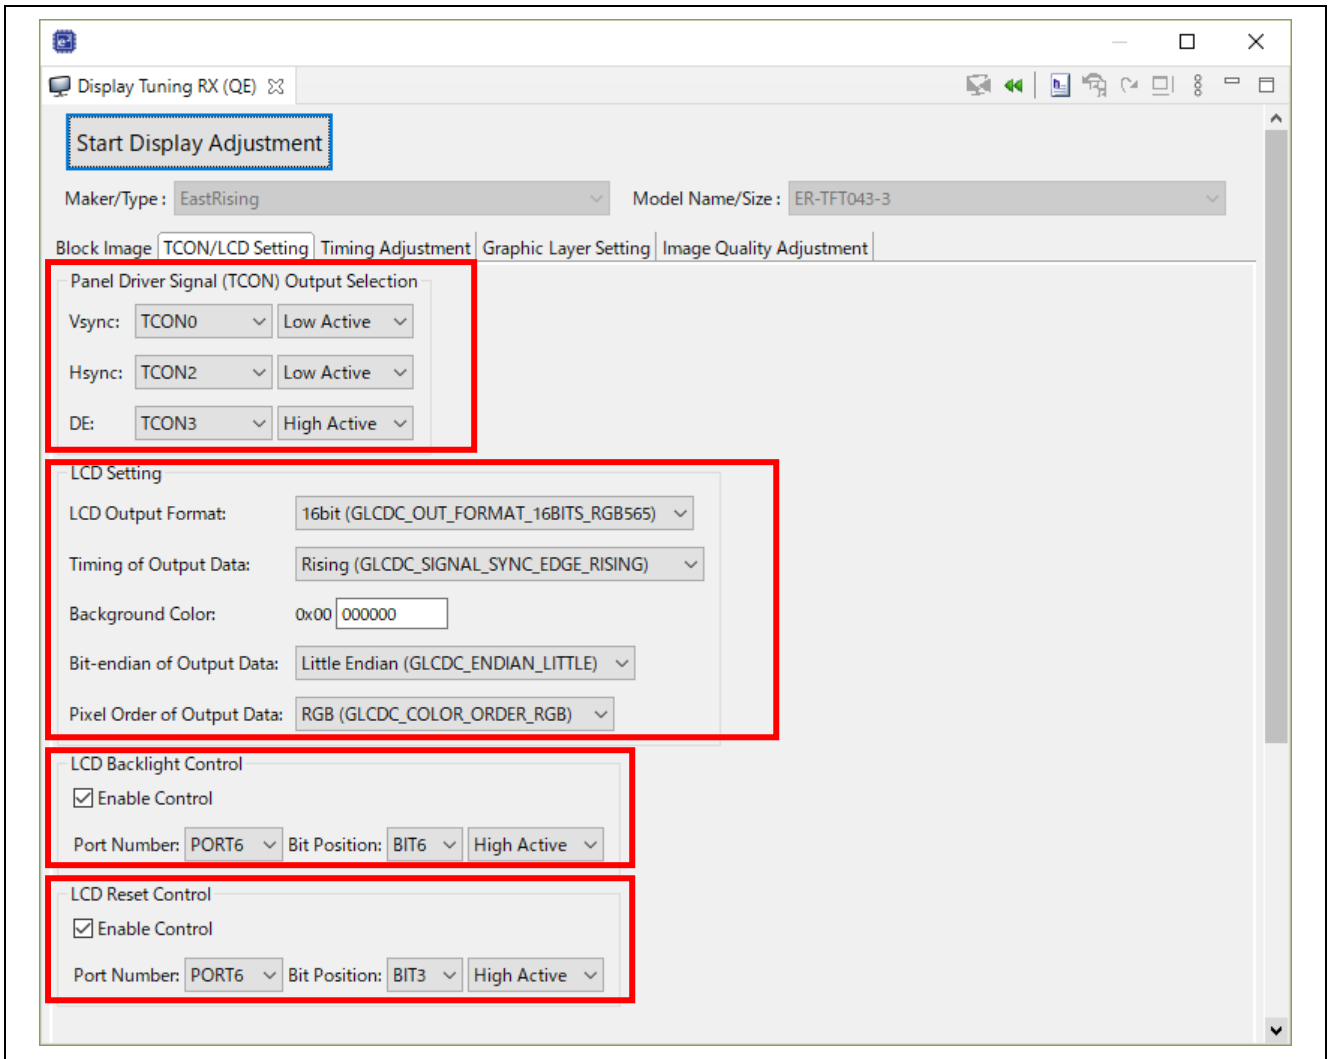

Figure 6-4 “TCON/LCD Setting” Tabbed Page
Select the “TCON/LCD Setting” tabbed page in the “Display Tuning RX (QE)” view and specify the settings for the output of control signals (Figure 6-4).